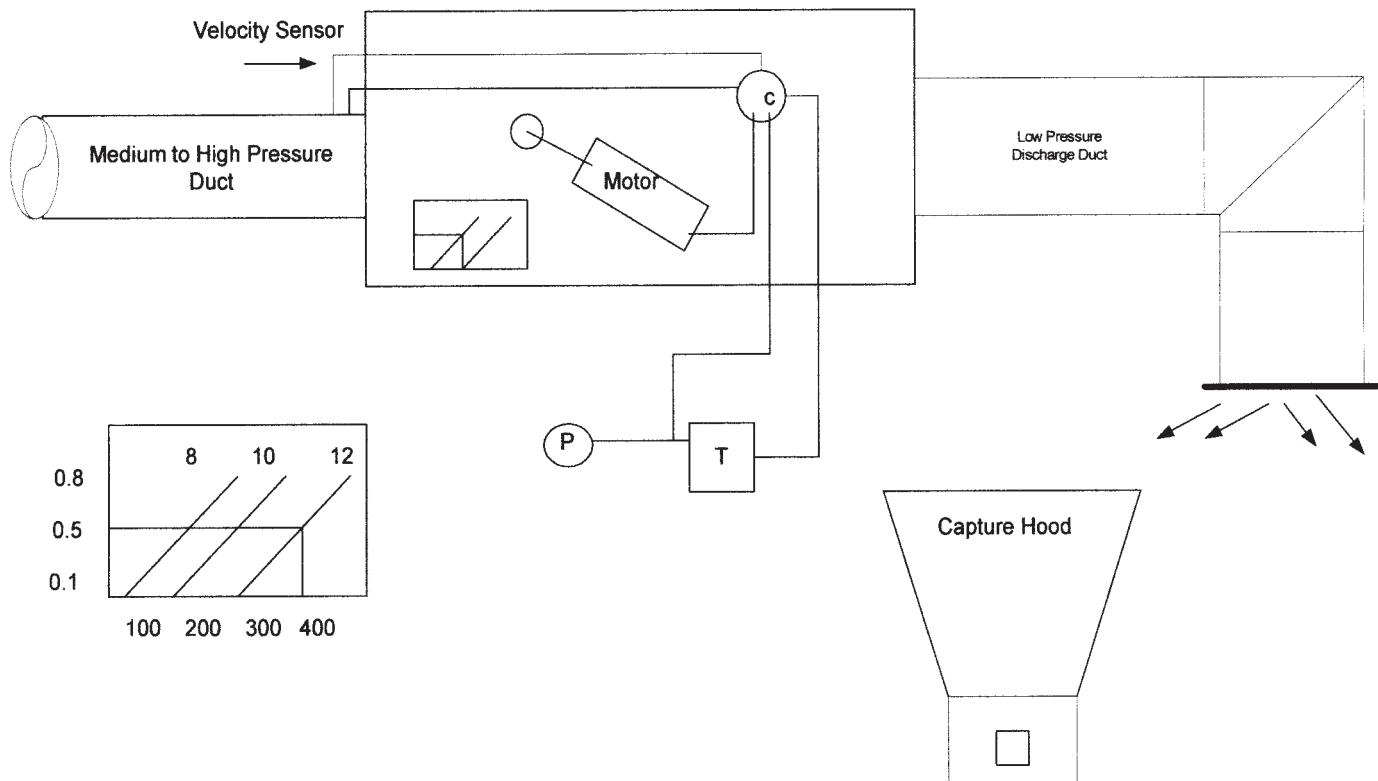

Figure 9-3. Pressure Independent Terminal Box
Pressure independent (PI) systems have terminal boxes (Figure 9-3), which work off the space thermostat signal as the master control. This signal operates a damper motor, which in turn opens and closes the box's volume damper or air valve. A velocity (volume) controller is used as a submaster control to maintain the maximum and minimum air volume to the space. The maximum to minimum airflow will be maintained when the static pressure at the inlet of the box is in compliance with the box manufacturer's published operational data.
The terminal box in Figure 9-3 is single duct, pressure independent. The inlet duct conveys medium to high pressure air (typically 2" to 6" wg). A velocity sensor for volume control is at the inlet of the box. Control pressure (P), either pneumatic compressed air or electricity, goes to the thermostat (T) and to the controller (C). A signal from the velocity sensor and the thermostat also go to the controller. A signal from the controller goes to the damper motor. This is the control sequence: When the thermostat senses a space temperature above or below set point a signal is sent to the controller. The controller sends a signal to the damper motor to open or close the volume damper. If the velocity sensor senses that the air velocity and calculated air volume is incorrect it will send a signal to the controller to readjust the damper.